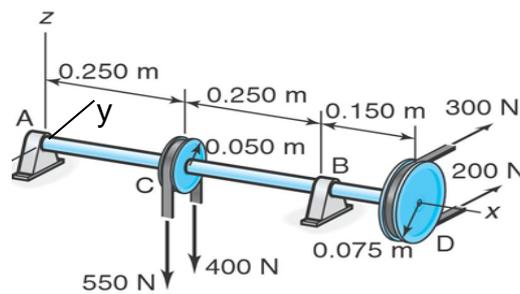

Fig. 1
2. A shaft with mounted belt drives has tensile forces applied as shown in Fig.1 and frictionless journal bearings at locations A and B. Please show (a) moment diagram in x-z plane; (b) moment diagram in x-y plane; (c) torque diagram. (30%)